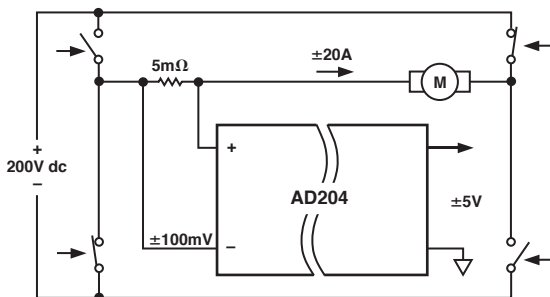

Figure 20. Motor Control Current Sensing
**Motor Control Isolator.** The AD202 and AD204 perform very well in applications where rejection of fast common-mode steps is important but bandwidth must not be compromised. Current sensing in a full-wave bridge motor driver (Figure 20) is one example of this class of application. For 200 V common-mode steps (1  $\mu$ s rise time) and a gain of 50 as shown, the typical response at the isolator output will be spikes of  $\pm 5$  mV amplitude, decaying to zero in less than 100  $\mu$ s. Spike height can be reduced by a factor of four with output filtering just beyond the isolator's bandwidth.